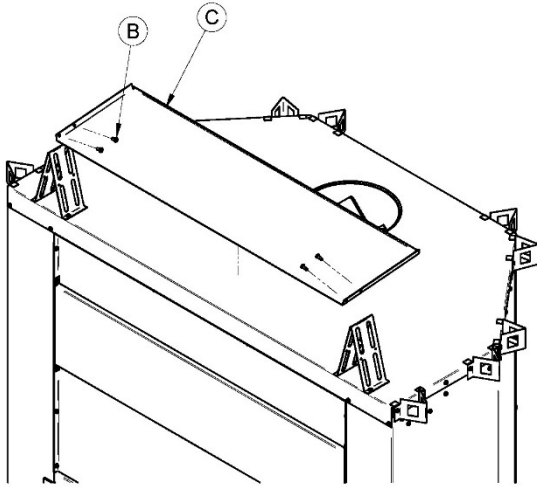

Figure 6
- As illustrated in **Figure 6 and 7**, position the heat shield (C) between the spacers previously installed with the folds facing up. Align the holes of the shield with the ones of the left and right spacer and secure it with 4 screws (B).